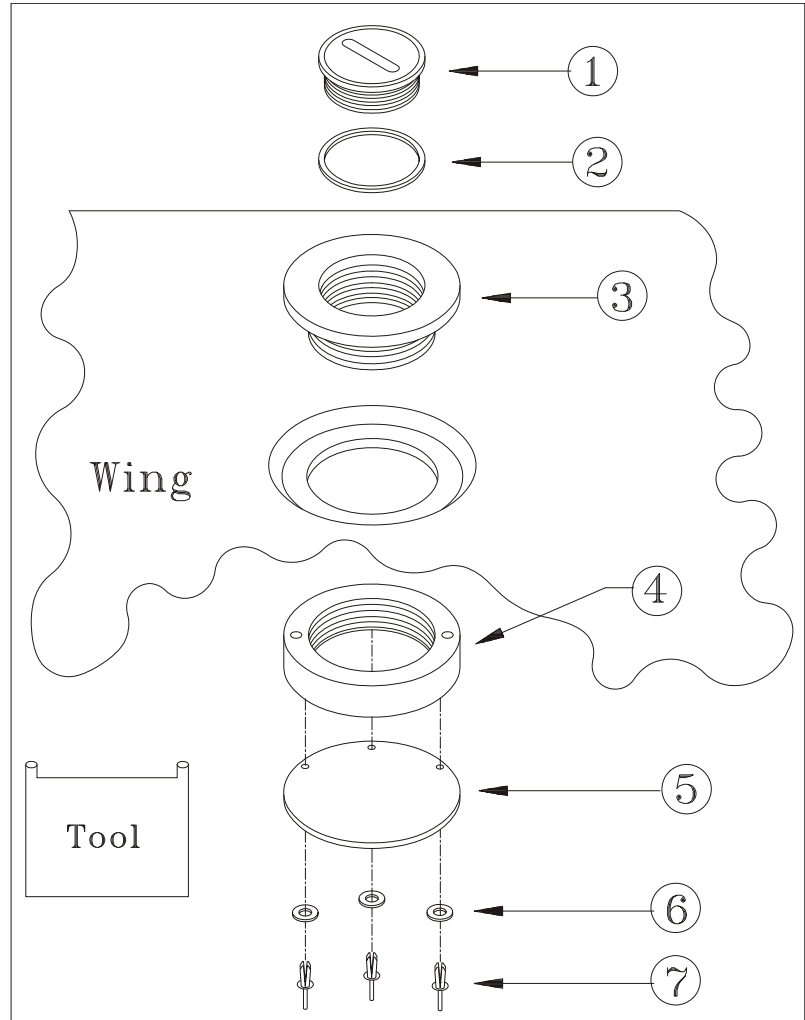

Figure 8 Filler Neck and Sealing Lip Removal/Installation
- 3 Unscrew filler neck lock ring (4, Figure 8) with sealing lip (5) using a tool as shown in Figure 8.
- 4 Remove filler neck (3) with filler cap (1) and O-ring (2).
- 1 Carefully drill out the body-bound rivets (7, Figure 8).
- 2 Install the new sealing lip driving in new washers (6) and body-bound rivets.